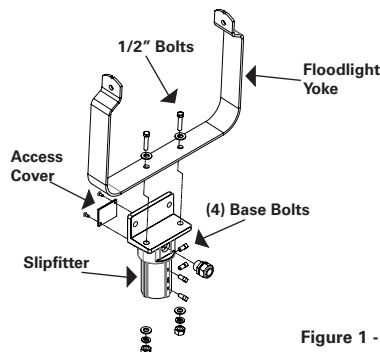

Figure 1 - SFA6
1. Using the ½" bolts, nuts and lock washers provided, securely fasten the floodlight yoke to the flange on the SFA6 slipfitter. Refer to Figure 1 for slipfitter assembly. Torque the bolts to 45 lbs.-ft.